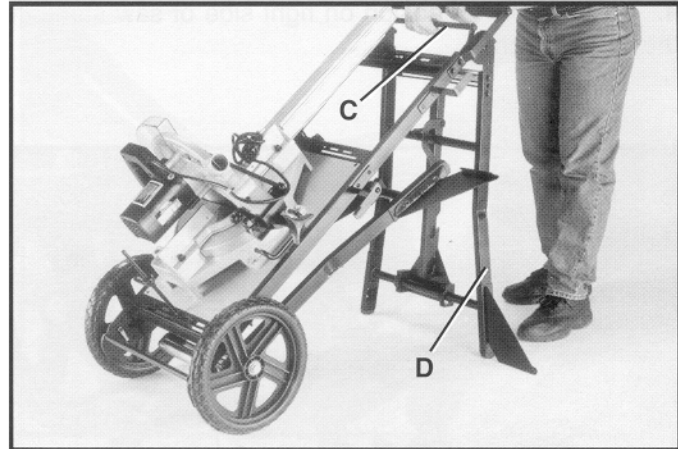

Fig. 51
3. Lift up bar (C) Fig. 51, to disengage leg lock on remaining leg (D) and fold leg (D) underneath stand.